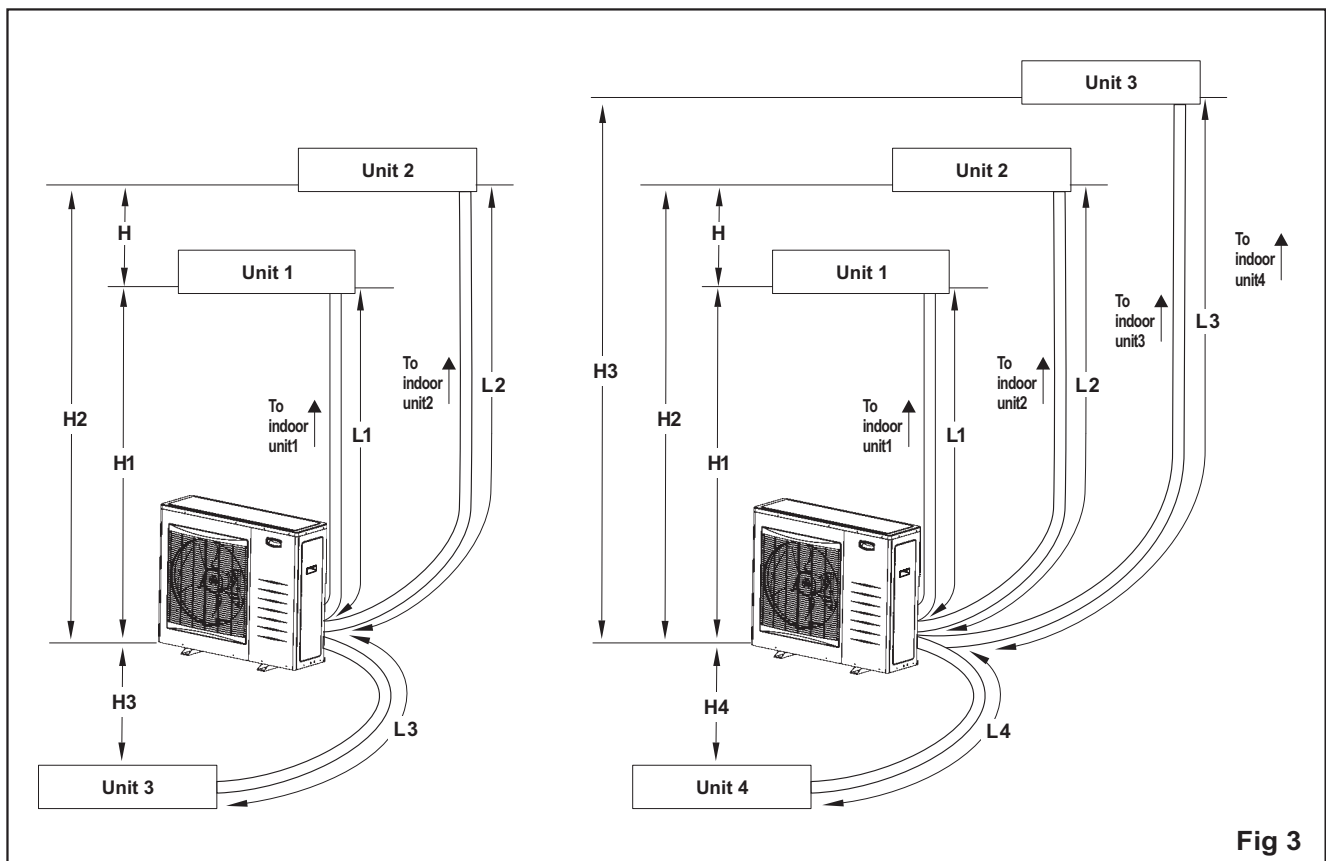

Fig 3
6. Refer to figure 3 for allowed installation distances.